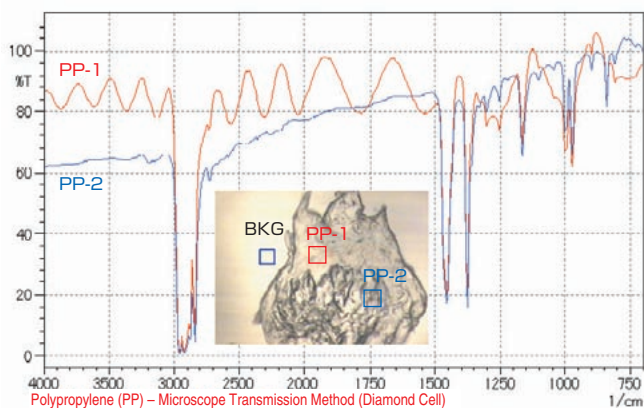

Fig. 4 Transmission Spectra of Polypropylene (PP)
An interference pattern may appear on the baseline if it is measured on a smooth part of the sample surface. Fig. 4 shows examples of polypropylene (PP) measurements. The insert shows a photograph of the actual measured positions.